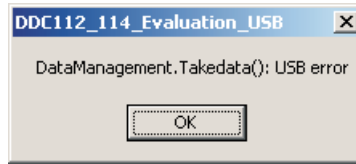

Figure 24. USB Error Notification Dialog
1. If you see a dialog box as shown in Figure 24, or an error message seen on main window status bar saying *Error Writing Registers*, this message indicates that the DDCMB is either not connected via USB or has not been properly detected by the system. Verify that the USB connection is good, or press the RESET_USB (S1) button on the DDCMB to allow communication to be established.